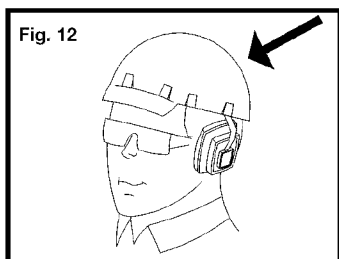

Fig. 12
19. Operator and bystanders should wear hard hats to safeguard against possible injuries. Fig. 12.